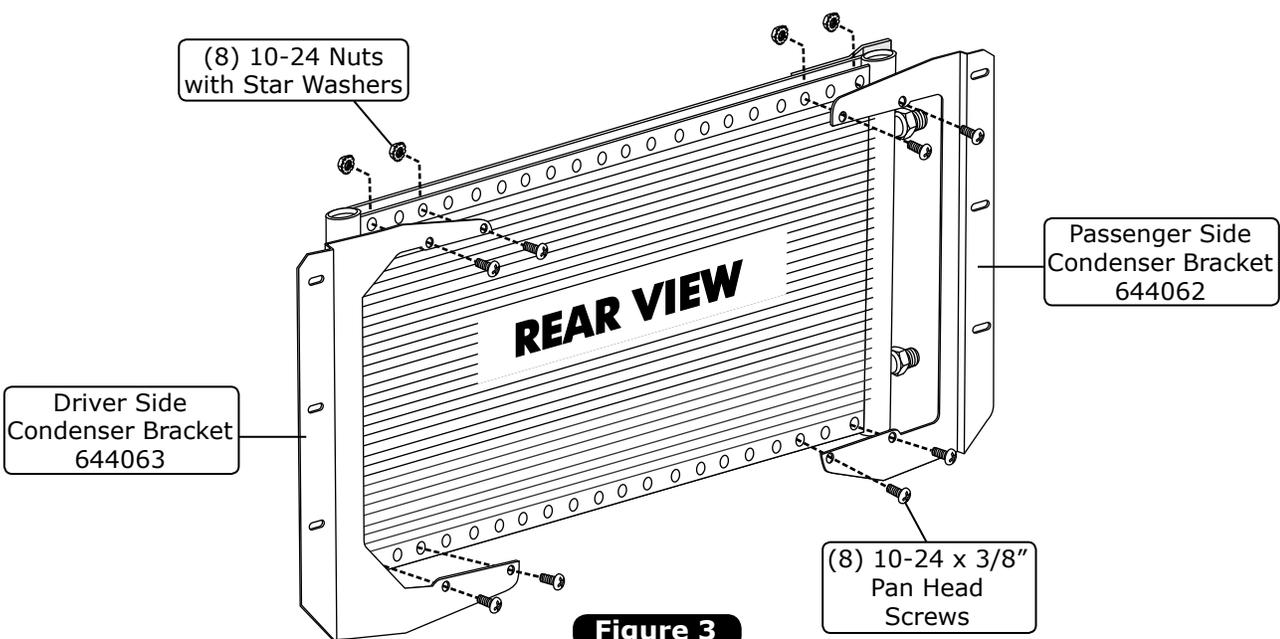

Figure 3
1. Install the condenser mounting brackets onto the condenser using (8) 10-24 x 3/8" pan head screws and (8) 10-24 nuts with star washers (See Figure 3, below). **NOTE: The brackets mount through the 1st and 3rd holes of the condenser.**